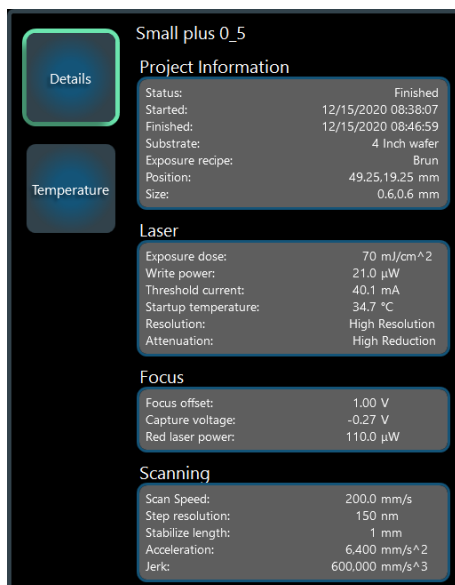

Figure 4-11 Project details window
2. Double click a project to show the project details, see Figure 4-11.